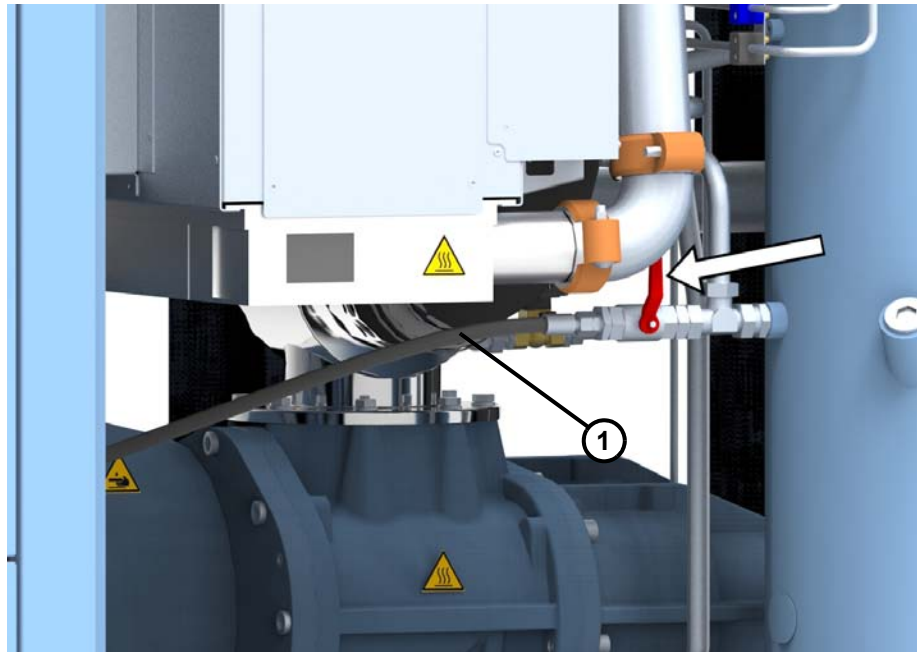

Fig. 6.12: Oil drain on the compressed air-oil container
8. Remove the service side cladding so that the oil drain is accessible (see figure 6.12).
9. Feed the oil drain hose (1) out of the machine.
11. Open the stopcock slowly (see arrow in figure 6.12).